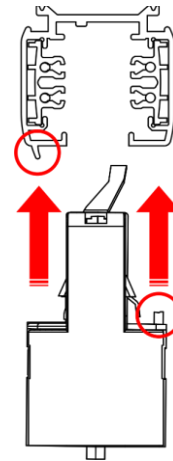

Fig. 06
- 02) Align the flange of the **track adapter (01)** with the track, as shown in Fig. 06.